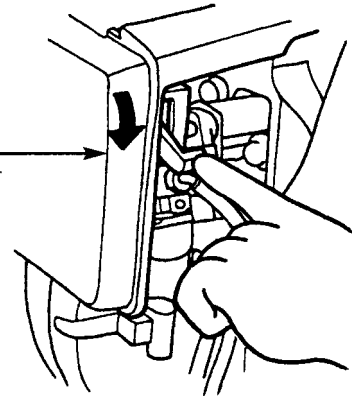

FIG 14A
- Check that ignition switch is "ON", CHOKE LEVER is on RUN position (Fig 14A).